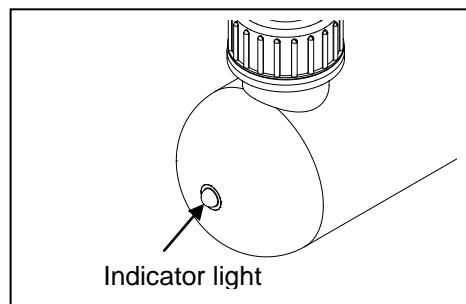

Fig. 6
6. Wait several seconds for the light to turn on then check the indicator light to verify if the light is functioning correctly. Fig. 6